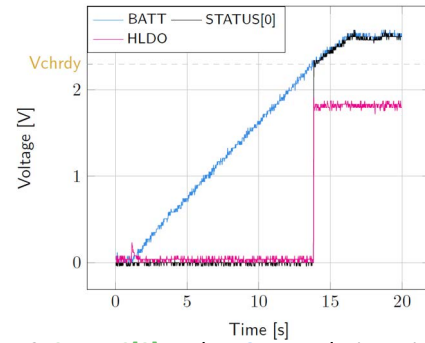

Figure 3: **STATUS[0]** and **HVOUT** evolution with **BATT**
- **BATT**: Voltage rises as the power provided by the source is transferred to the storage element (see Figure 3).
- **HVOUT/LVOUT**: Regulated when voltage on **BATT** first rises above **V_{CHRDY}** (see Figure 3).
- **STATUS[0]**: Asserted when the LDOs are ready to be enabled (refer to the AEM00941 datasheet “Normal Mode” section) (see Figure 3).